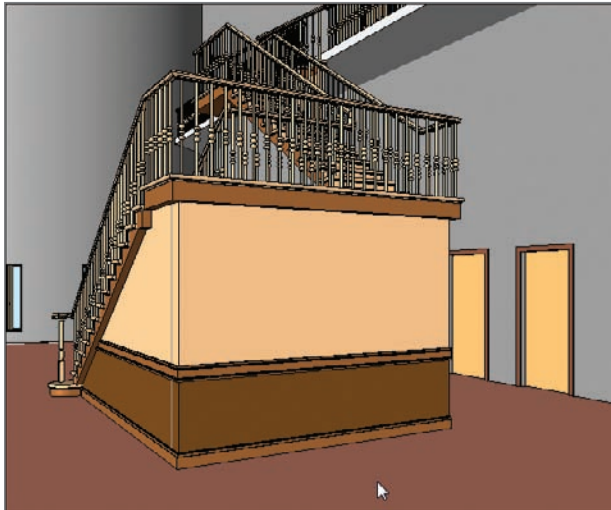

FIGURE 16.15 The finished walls should follow the profile of the stairs.
11. Repeat the procedure for each wall under the stairs. Remember to add elevations for each. Your finished walls should look like Figure 16.15.